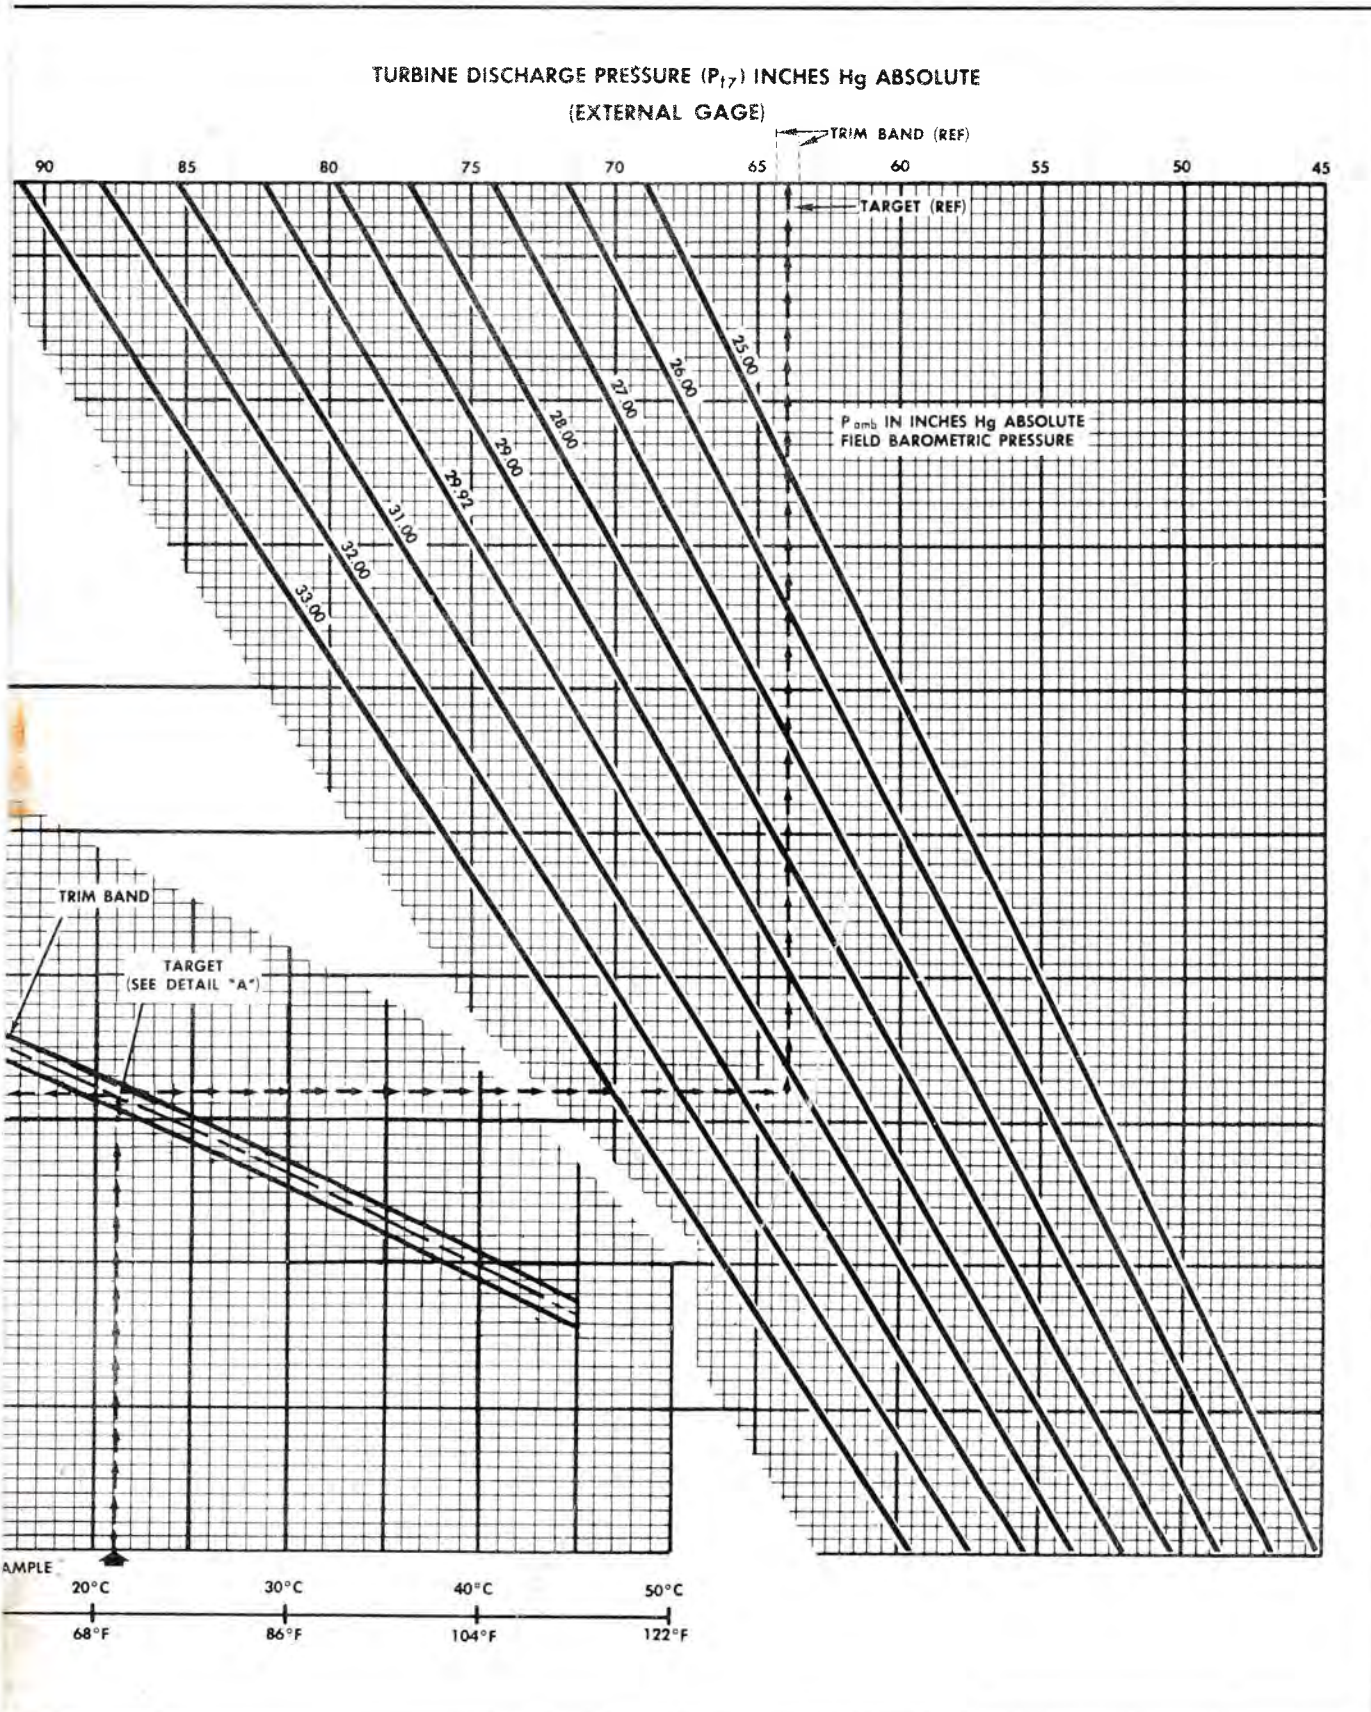

Figure 1-28. Engine Trim Chart, J75-P-17 Engine with Ham. Std. Fuel Control
c. Enter trim chart (figure 1-28) at the ambient air temperature and proceed vertically to the trim band target line half way between the minimum and maximum limits of the trim band.